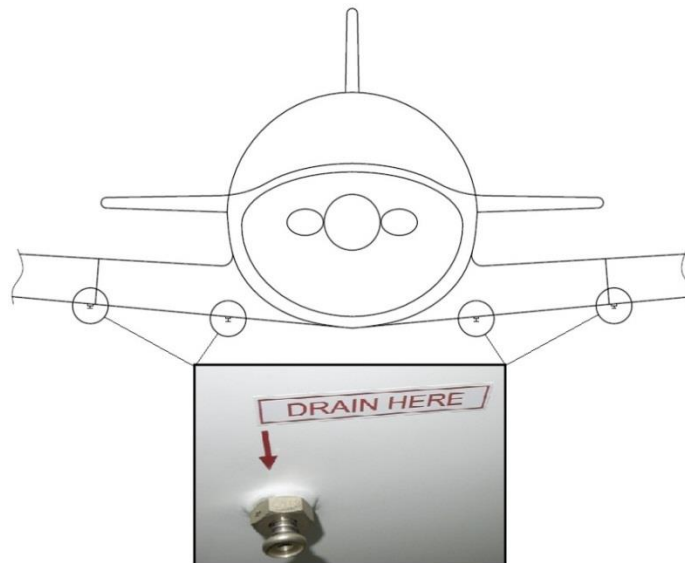

Fig. 4.4-2 Drain valves
3. Drain a small quantity of fuel by pushing of drain valve (fig. 4.4-2) to remove accumulated water if any.